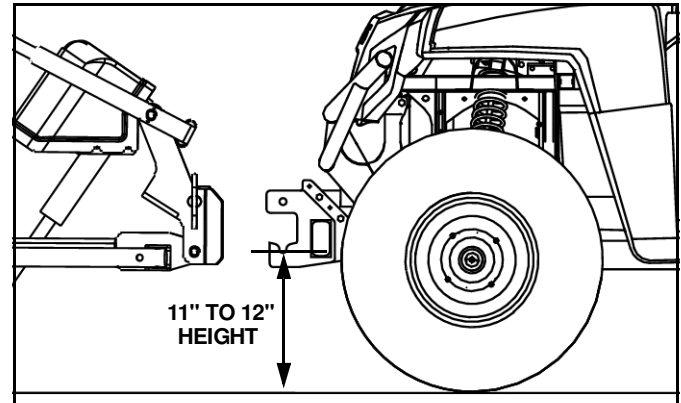

Figure 9
13. Adjust the UTV Mount (#1) so that the center of the bottom slot is 11-12" off the ground. (See Figure 9.)